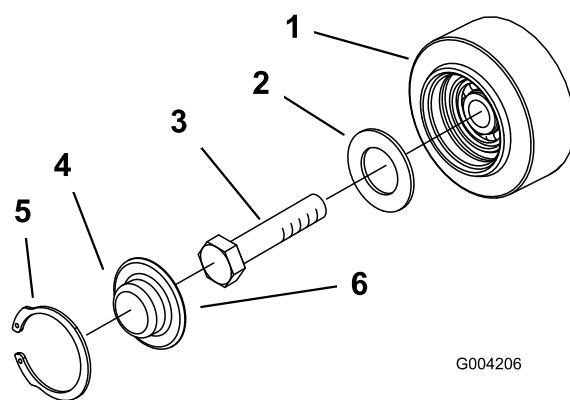

Figure 46
3. Remove the snap ring and cap from a road wheel (Figure 46).
4. Check the grease under the cap and around the gasket (Figure 46). If it is dirty, gritty, or depleted, clean out all of the grease, replace the gasket, and add new grease.
6. Place the greased road wheel cap over the bolt head (Figure 46).
7. Secure the road wheel cap with the snap ring (Figure 46).